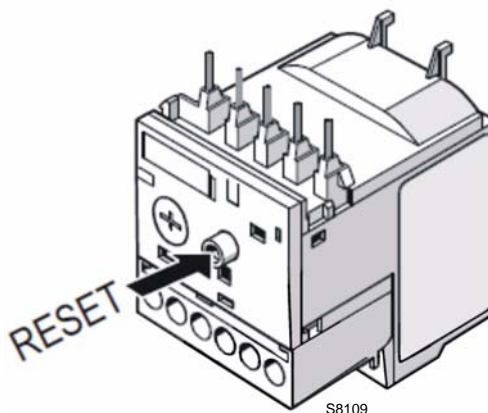

Fig. 19
- To reset, in the case of an intervention of the thermal relay, press the button "RESET" (Fig. 19).